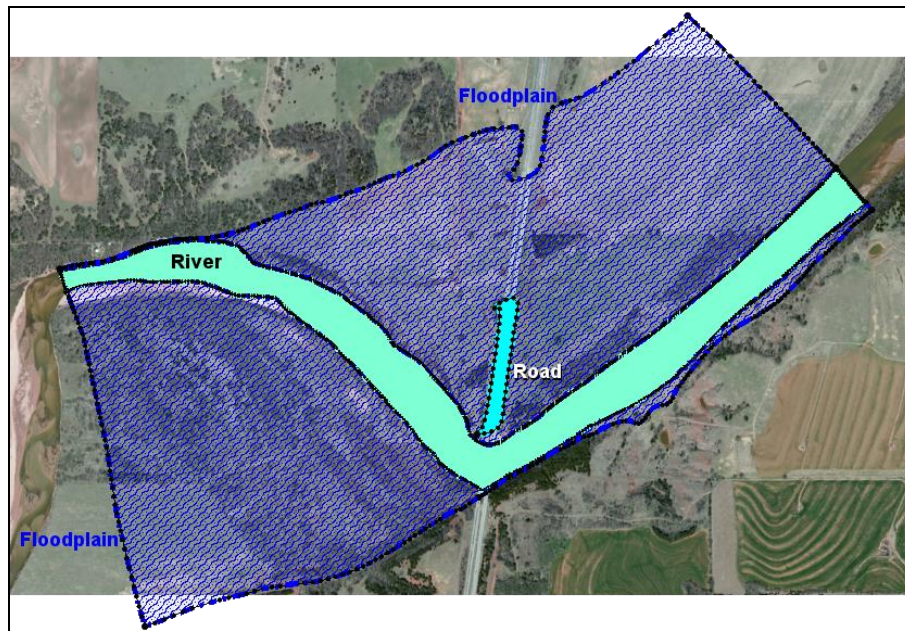

Figure 5. Material types of the four polygons
3. Select the appropriate material type for that zone, as shown in Figure 5 below.